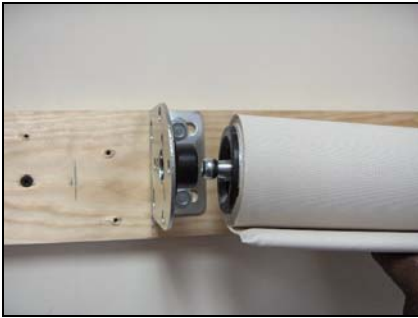

Figure 9 Idler Pin Going into Bracket
- Lift the shade into the headbox, idler end first, and place the idler pin on the shade into the idler end bracket. See Figure 9.